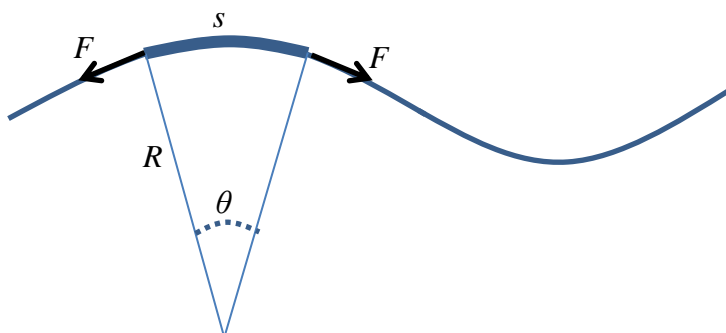

Figure 4
There are several methods to derive equation (6). Please read the derivation provided in your textbook. Here is another method, less rigorous, that uses a few approximations. In **Figure 4** the angle θ in units of radians could be determined by dividing the arc length s by the radius R ,